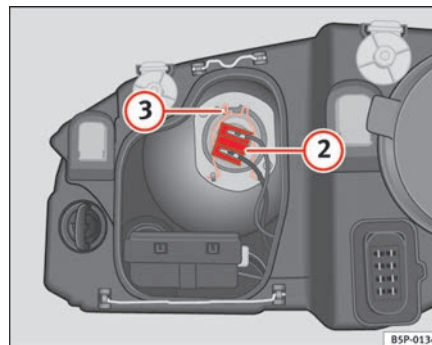

Fig. 180 Dipped head-lights
- Remove the connector ⇒ page 256, fig. 180 ② from the bulb.
- Disengage the retainer spring ⇒ page 256, fig. 180 ③ pressing inwards to the right.